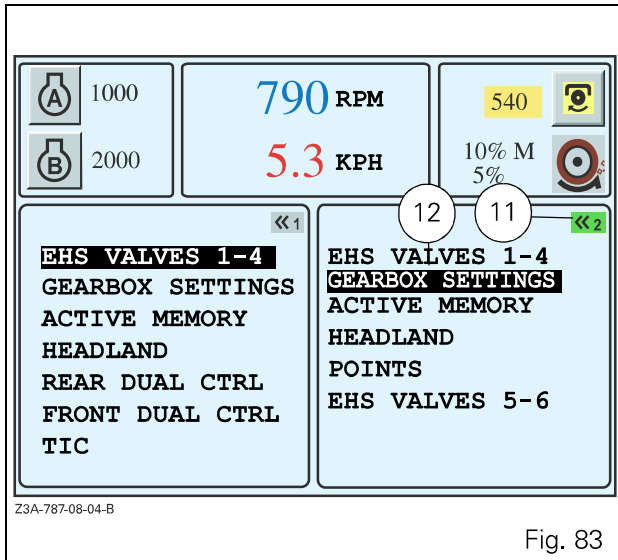

Fig. 83
Displays the GEARBOX SETTINGS menu in the right-hand window (Fig. 83):
- To start one of the applications, press the key «1, or the key «2 twice. The first key press selects the window and the second displays the list. The active application is represented by a green button at the top right of the window (ref. 11 Fig. 83).
- To call up the various menus, select the application using the encoder. The selected application is displayed in a black frame (ref. 12 Fig. 83).